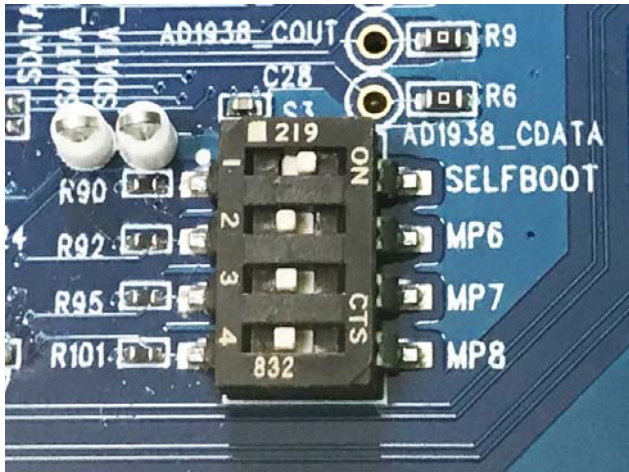
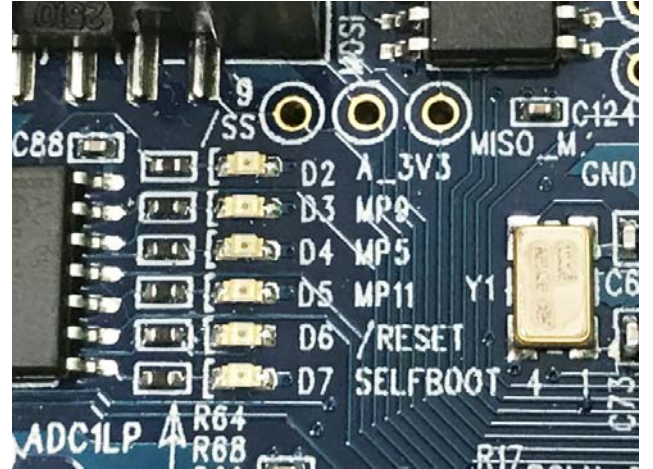

Figure 67. Self Boot EEPROM and Slide Switch
Figure 76. Status LEDs
A 1 Mb, 20 MHz, SPI, serial EEPROM memory is included on the EVAL-ADAU1452REVBZ evaluation board. The ADAU1452 can boot and execute a program without help from an external microcontroller. This self boot feature allows any project developed within SigmaStudio to execute on a rising edge of the RESET pin signal or when the ADAU1452 powers up. Section 1 of the S3 DIP switch (see Figure 67) sets the state of the ADAU1452 SELFBOOT pin. Setting Section 1 of the S3 switch to off disables the self boot feature. LED D7 illuminates when the EVAL-ADAU1452REVBZ board is set to self boot (see Figure 76).
1. Set the SELFBOOT switch (Section 1 of S3) to the enabled position on the EVAL-ADAU1452REVBZ board (see Figure 67).
Six status LEDs provide information about the state of the EVAL-ADAU1452REVBZ evaluation board (see Figure 76 for LED locations). For more information about the status LEDs, see Table 6.